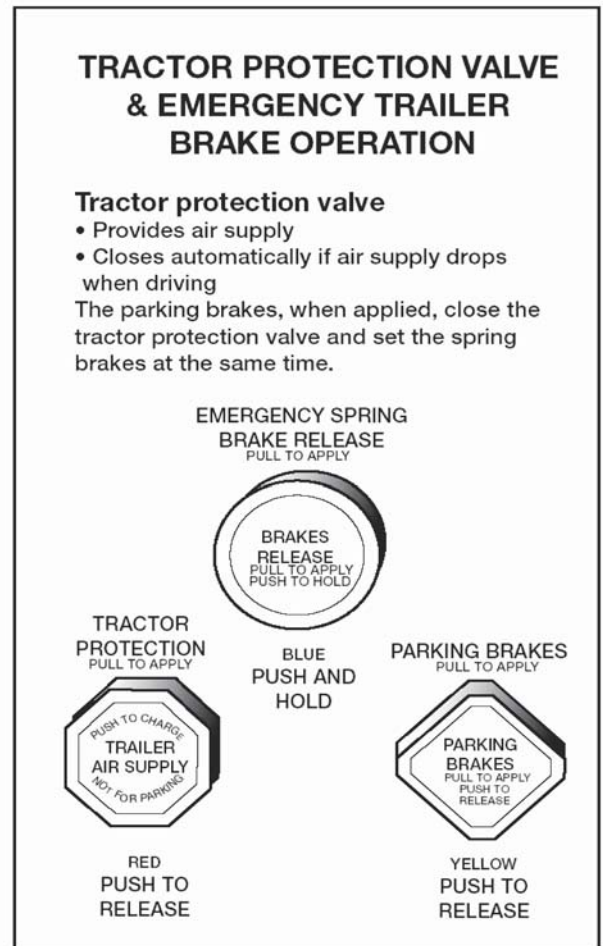

Figure 5.3
**Dual Parking Control Valves:** When main air pressure is lost, the spring brakes come on. Some vehicles, such as buses, have a separate air tank which can be used to release the spring brakes. This is so you can move the vehicle in an emergency. One of the valves is a push-pull type and is used to put on the spring brakes for parking. The other valve is spring loaded in the “out” position. When you push the control in, air from the separate air tank releases the spring brakes so you can move. When you release the button, the spring brakes come on again. There is only enough air in the separate tank to do this a few times. Therefore, plan carefully when moving. Otherwise, you may be stopped in a dangerous location when the separate air supply runs out. (See Figure 5.3.)